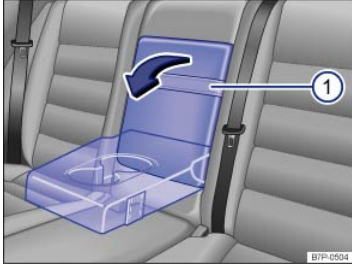

Fig. 47 Rear center armrest.
There may be a fold-down armrest with a small storage compartment in the backrest of the center rear seat ⇒ Fig. 47.
To *fold down*, pull the loop in the direction of the arrow ⇒ Fig. 47①.